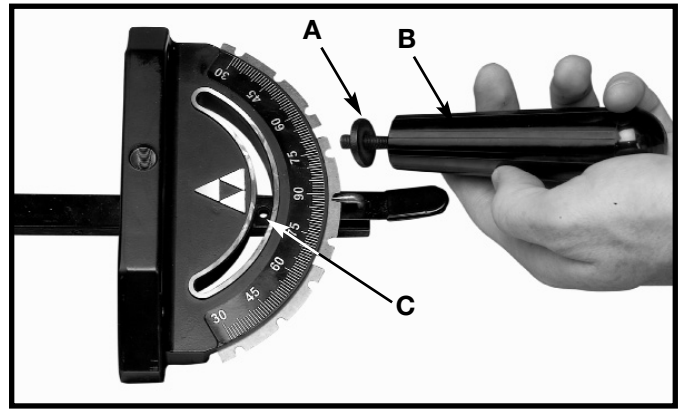

Fig. 30
Place a flat washer (A) Fig 30 on the threads of the miter gage lock handle (B) and then thread the handle into the hole (C) in miter gage bar.